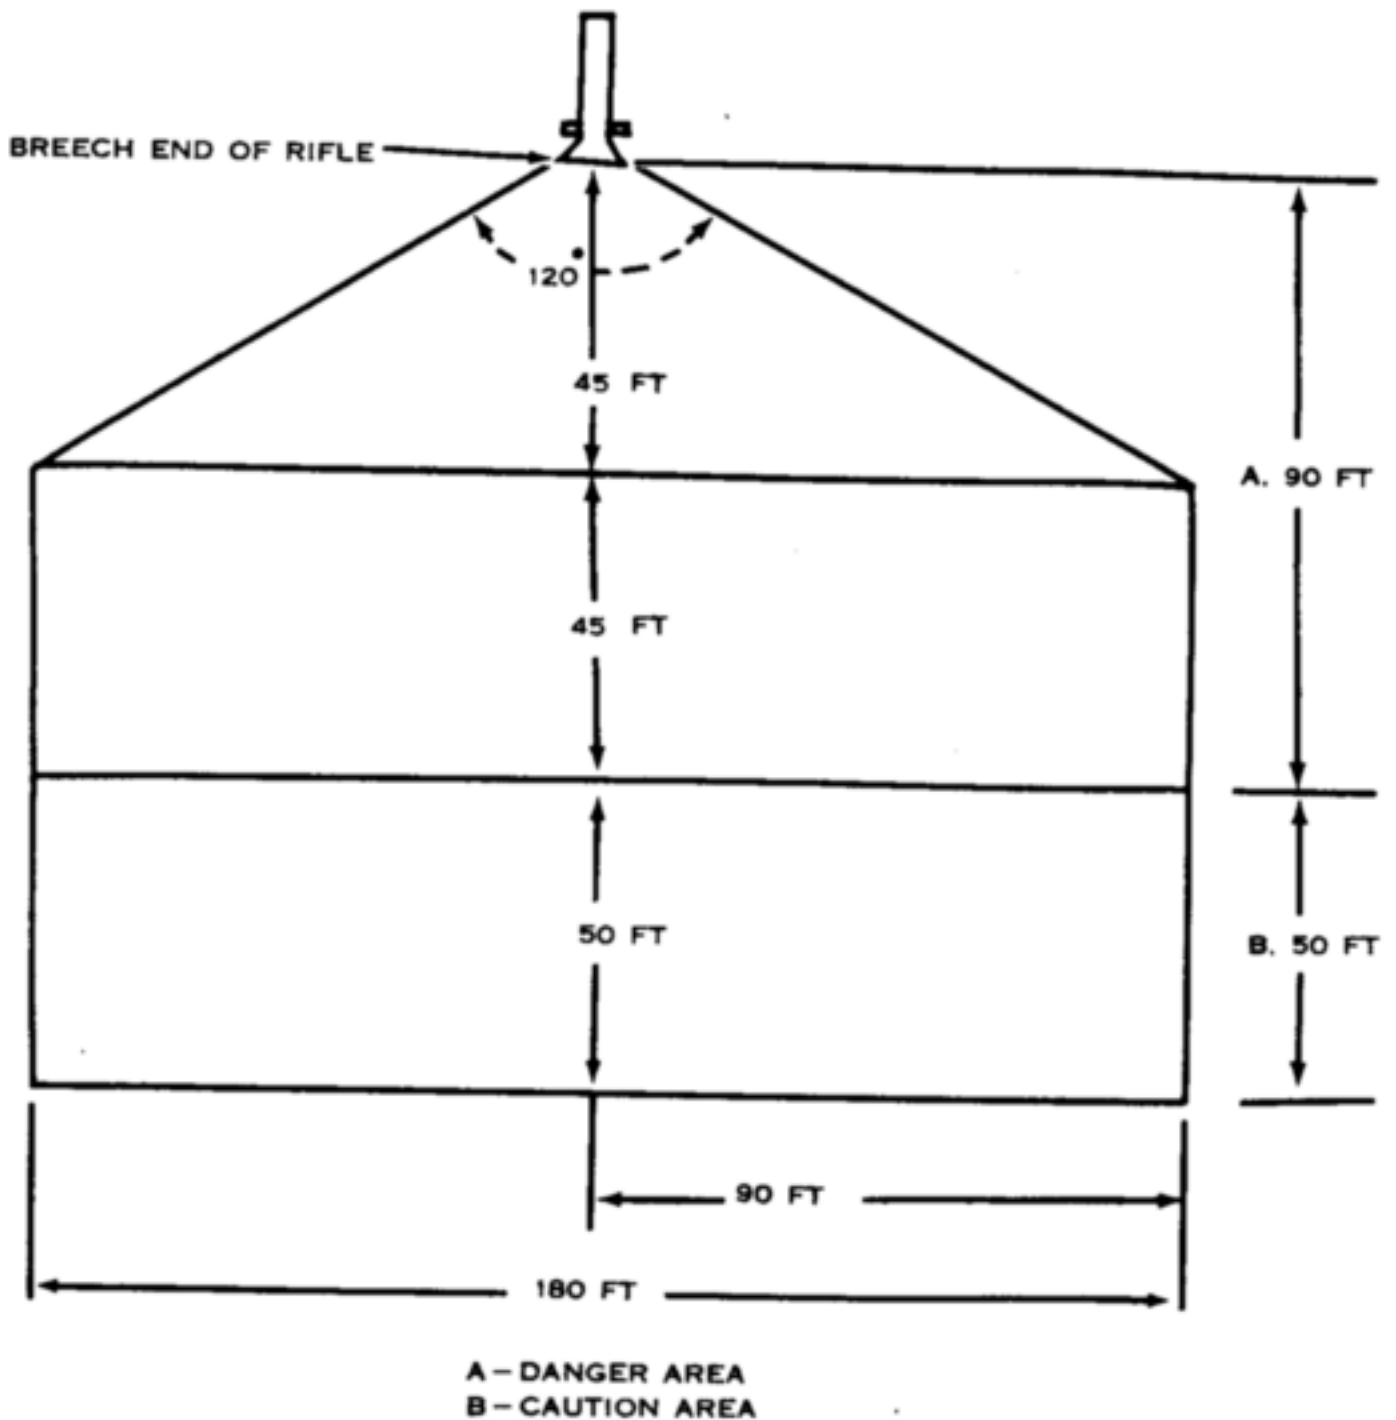

Figure 32. Backblast area.
*** *b.* The backblast area is pentagonal in shape (fig. 32) with the apex at the breech. It extends 43 meters to the rear and has a 55-meter base, 27.5 meters on either side of the bore axis extended. It is divided into two areas: A danger area and a caution area. In the danger area, which extends 27.5 meters to the rear of the breech, serious casualties or fatalities are likely to occur due to blast and flying debris. In the caution area an individual is relatively safe providing he does not face the breech. This area extends an additional 15 meters to the rear of the danger area. It is habitually kept clear during training situations.